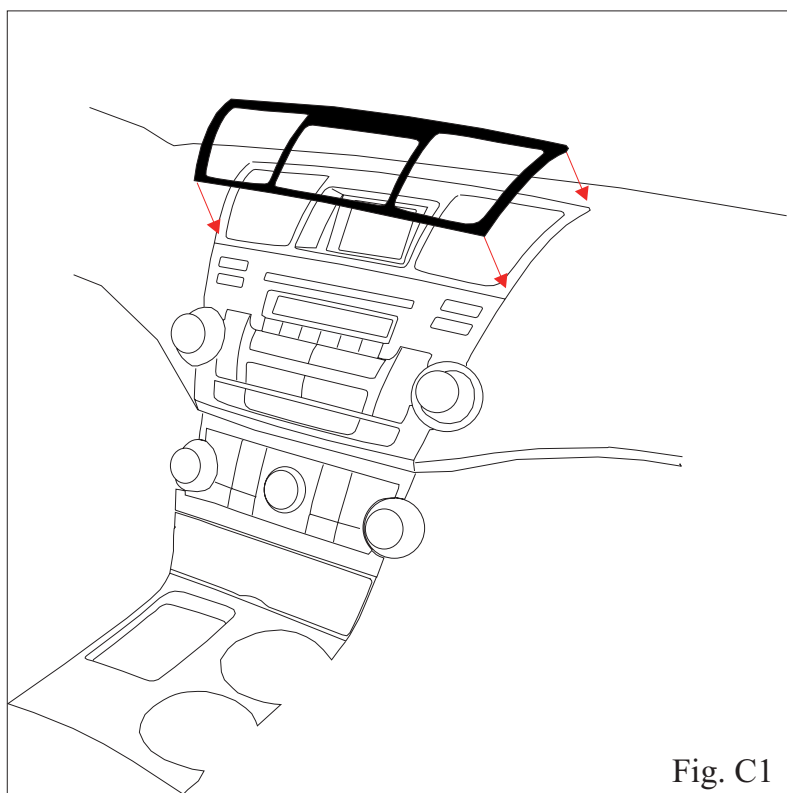

Fig. C1
A. Align part uniformly to edge of factory components. Edge of appliqué should be flush to edge of factory component,  $\pm 1.0\text{mm}$ . (Fig. C1).